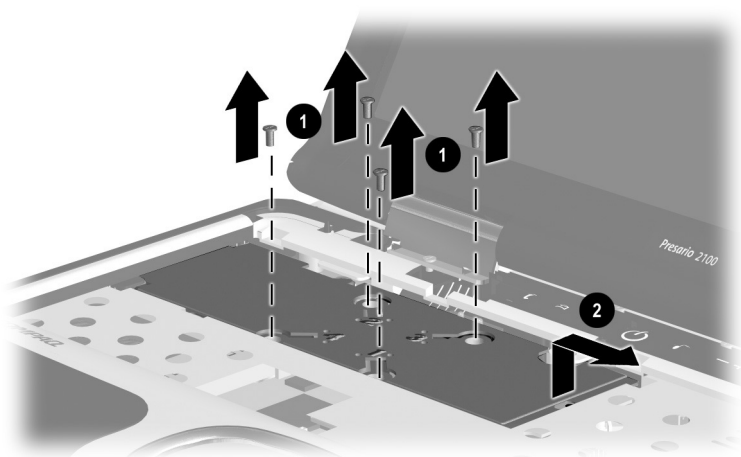

Figure 5-15. Removing the Heat Sink Screws
4. Remove the four PM2.0 × 5.5 screws ❶ that secure the heat sink to the base enclosure (Figure 5-15).